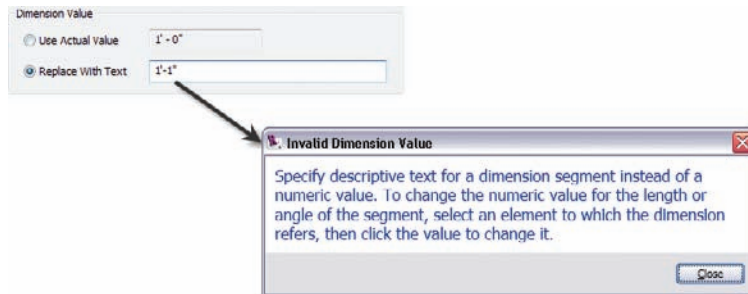

FIGURE 5.42 Any numeric value will trigger a warning in Revit. You simply cannot type a value over a dimension.
3. Under Dimension Value, click Override Replace With Text, as shown in Figure 5.42.